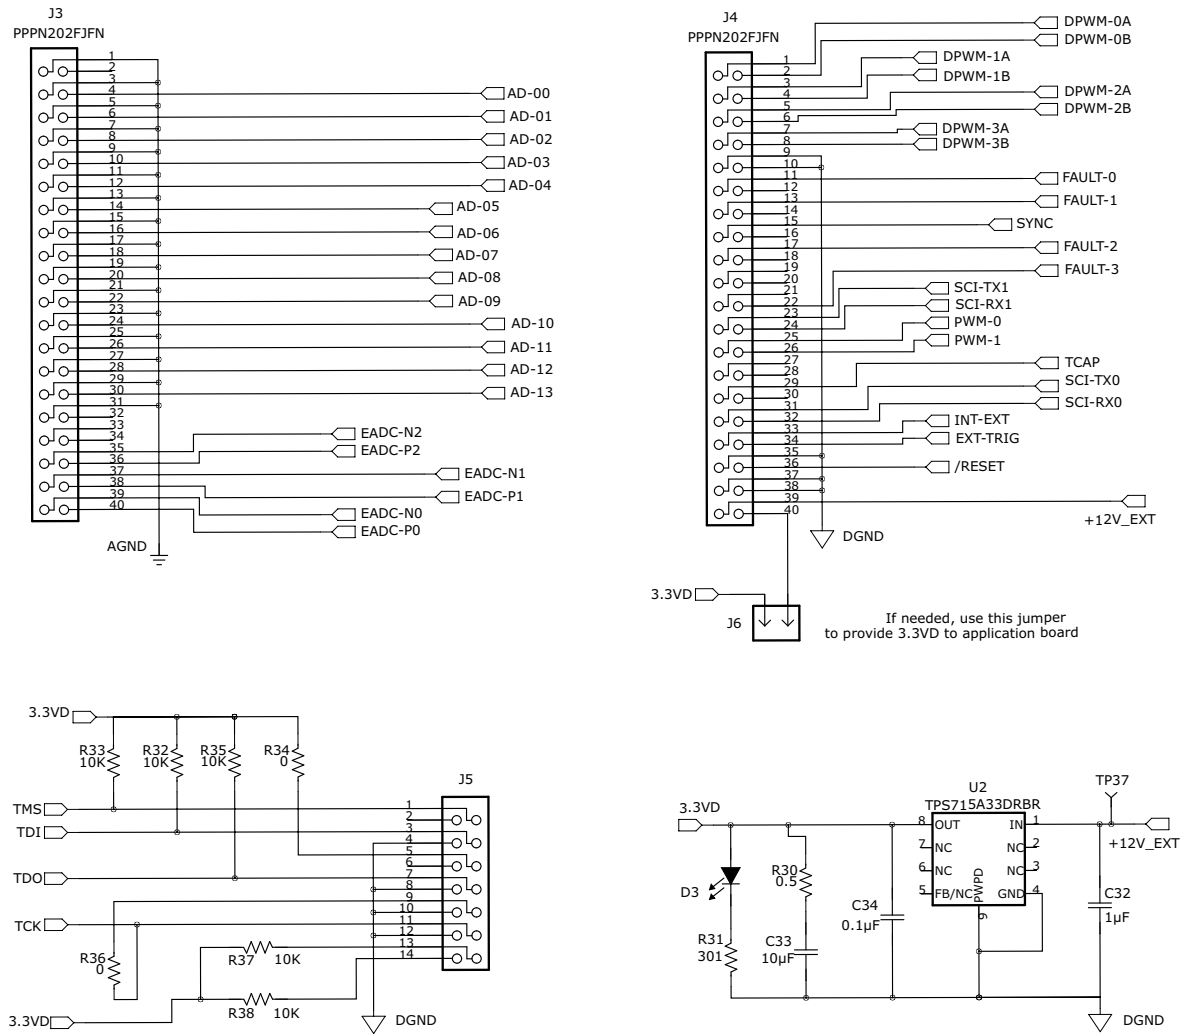
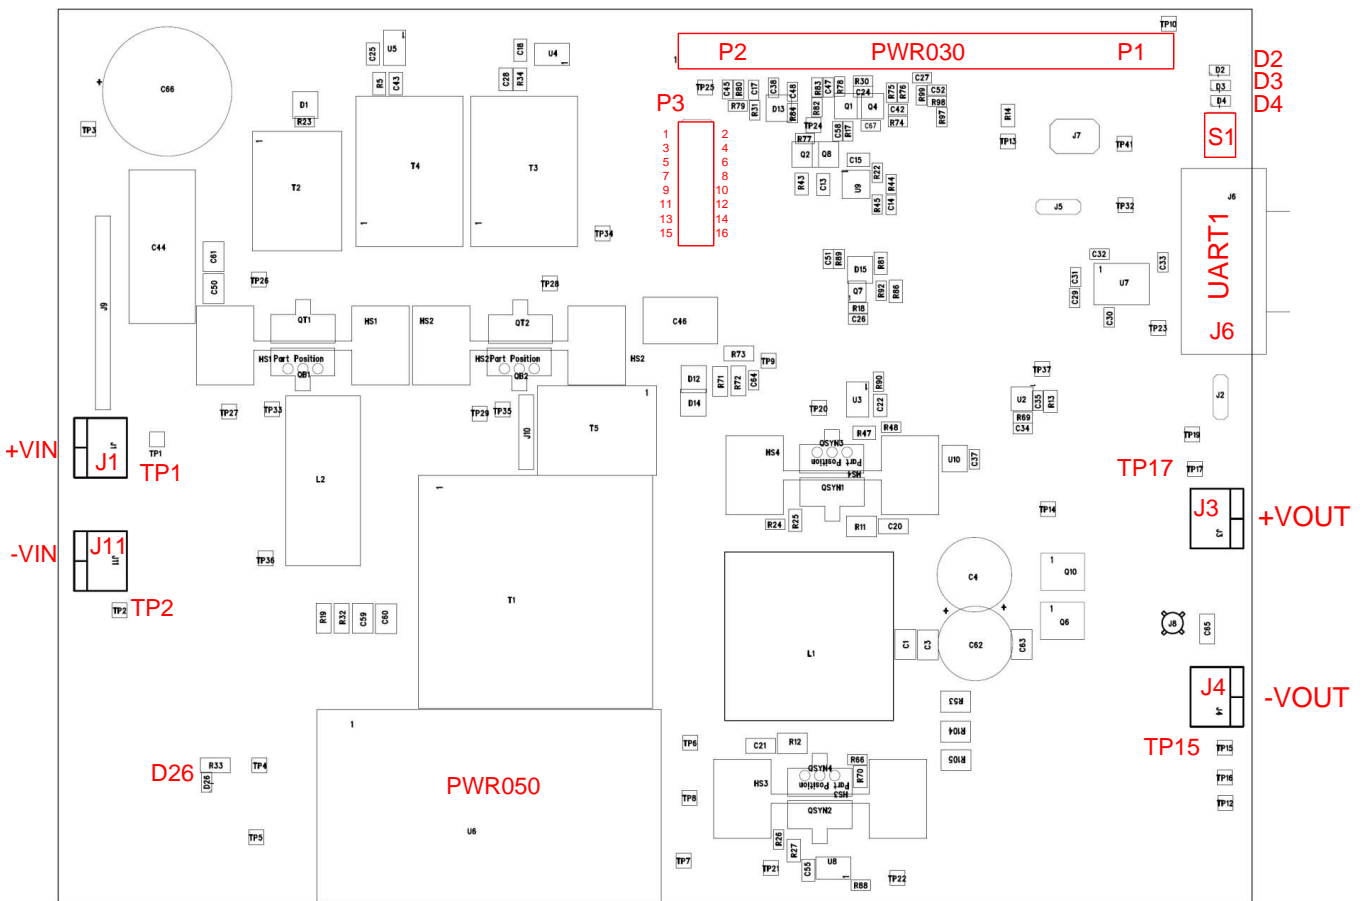

Figure 4. UCD3138CC64EVM-030 Schematics, Sheet 2 of 2
Figure 5. UCD3138PSFBEVM-027 Recommended Test Setup
1. See Figure 4 for basic setup to measure power-conversion efficiency. The required equipment for this measurement is listed in Figure 5.